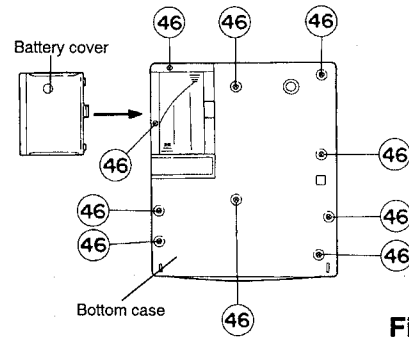

Fig. 1
■ CD Door Assembly (Refer to Fig. 1)